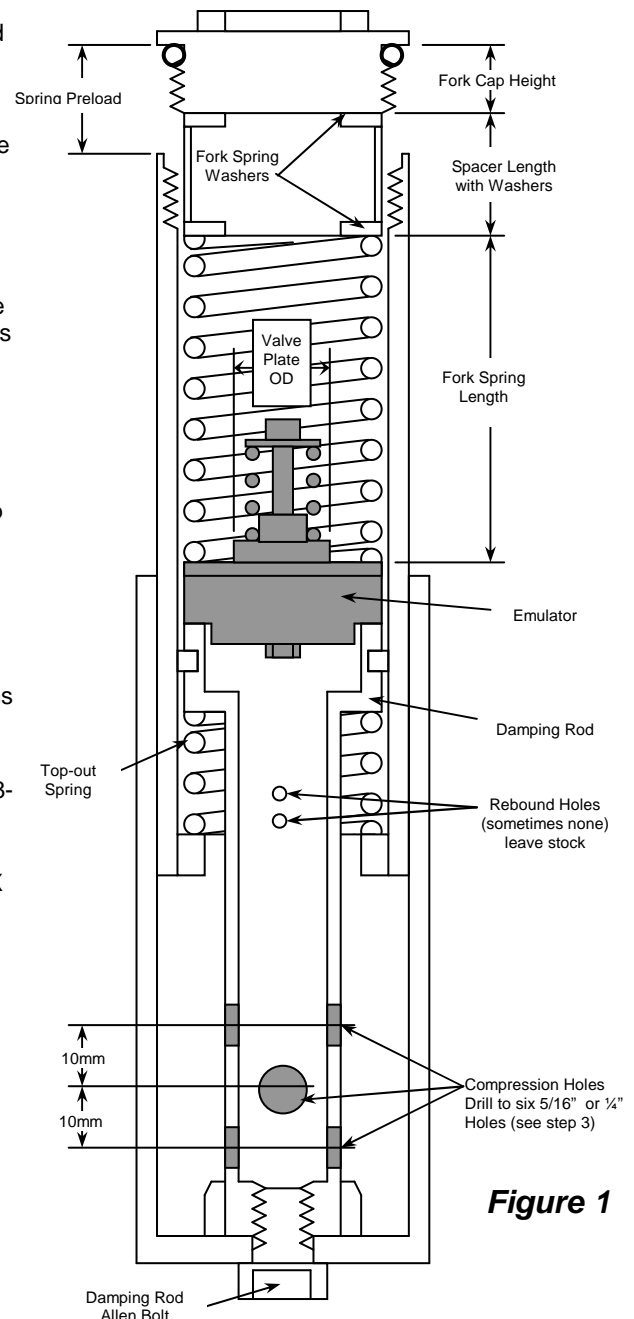
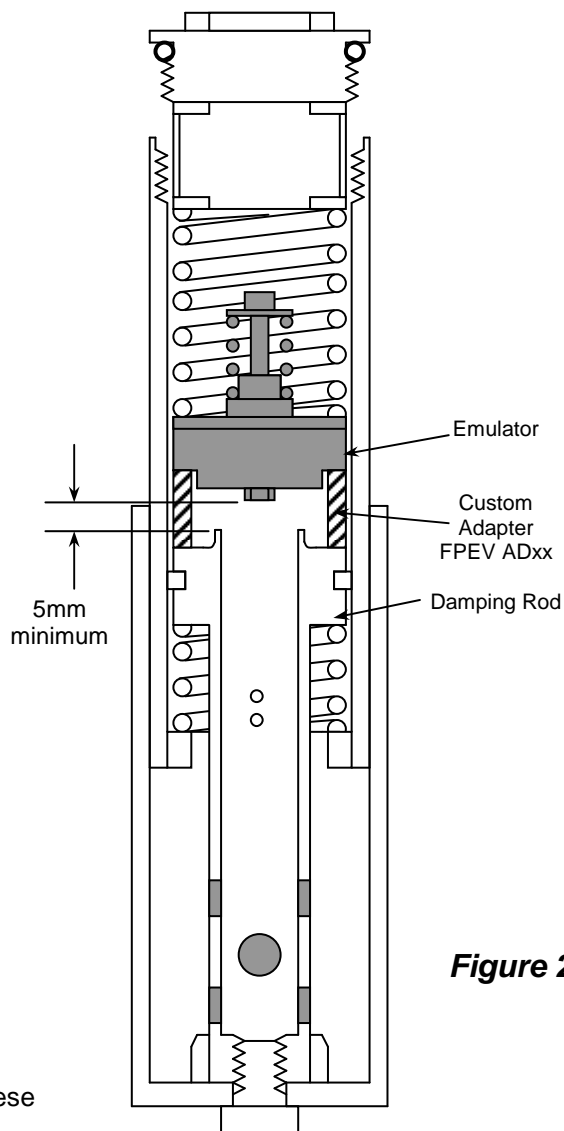

Figure 1
Figure 2
2 **Check the fit of the Gold Valve Emulator** by placing it on top of the damping rod. The step on the Emulator must sit into the large hole in the top of the damping rod and must completely cover it so there is no blow-by (figure 1).
- Check the inner diameter of the fork spring.** It must be at least 4mm (0.160") larger than the Emulator Valve Plate OD for proper flow (figure 1).
3 **Drill the existing compression holes in the damping rod and add additional holes so you end up with six holes (3 sets of 2 holes) (figure 1).** Any new holes will be above the existing holes. When drilling new holes, space them lengthwise at 10mm (7/16") increments. Each set of two holes must be perpendicular to the last set to maintain rod strength.
- a. Drop the Emulator down the tube. It sits on top of the damping rod with the Emulator Valve Spring facing up and is held in place with the main fork spring. Refer to figure 1. Visually check to make sure the Emulator is sitting squarely on top of the damping rod or the adapter. If you have flat-top or protruding style damping rods it requires the FPEV AD series adapters (figure 2) and they should be installed first, before the Emulator.
- c. Set the fork cap on the washer and determine the preload by measuring from the top of the fork tube to the sealing lip on the fork cap (see figure 1). This is a direct measurement of fork spring preload. Shorten the spring spacer tube to achieve the preload in the DVS.
Adapter Height – The adapter must be tall enough to allow 5mm (0.200") clearance between the top of the hole in the damping rod and the bottom of the jam nut on the Emulator. (Figure 2) Pre-made Emulator Spacers are available: FPEV AD 3003 standard style, FPEV AD3004 custom style center